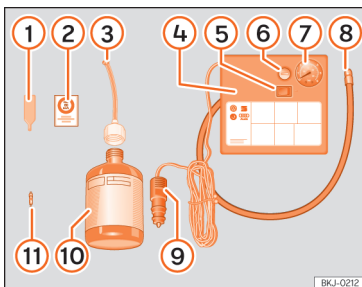

Fig. 231 Standard display: contents of the tyre mobility system.
The tyre mobility system is located underneath the floor covering in the luggage compartment. Includes the following components >>> **Fig. 231**:
- Unscrew the tyre valve cap and insert. Use the device >>> **Fig. 231** ① to remove the valve cap. Place it on a clean surface.
- Shake the tyre sealant bottle vigorously >>> **Fig. 231** ⑩ .
- Screw the tyre inflation hose >>> **Fig. 231** ③ into the tyre sealant bottle. The bottle's seal will break automatically.
- Remove the filler cap >>> **Fig. 231** ③ and screw the open end of the tube into the tyre valve.
- Replace the valve insert with the device >>> **Fig. 231** ① onto the tyre valve.
- Screw the tyre inflation tube of the compressor >>> **Fig. 231** ⑧ onto the tyre valve.
- Check that the air evacuation screw is closed >>> **Fig. 231** ⑥ .
- Attach the connector >>> **Fig. 231** ⑨ to the vehicle's 12 volt power outlet >>> **page 214**.
- Switch on the air compressor with the ON/OFF switch >>> **Fig. 231** ⑤ .
- Attach the sticker »» Fig. 231 (2) to the instrument cluster display, within the driver's field of vision.
Screw in the inflator tube »» Fig. 231 (8) again and check the pressure on the gauge (7).